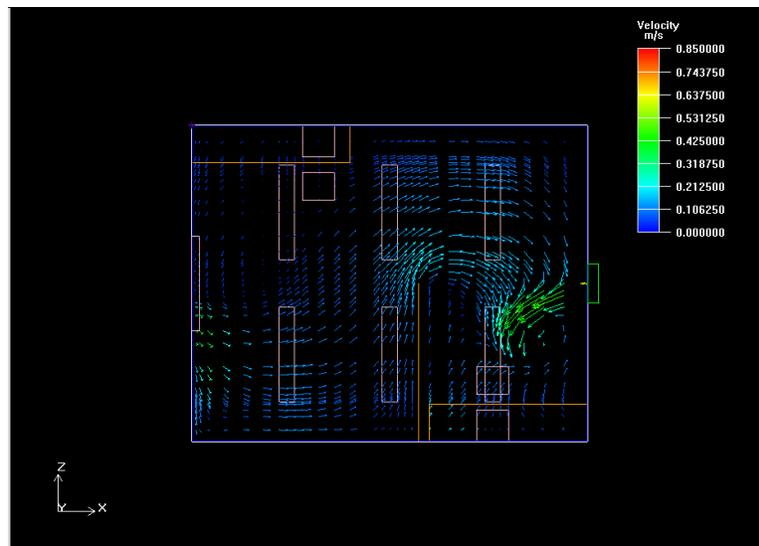

Figure 1.11: Velocity Vectors in an  $x$ - $z$  Cross Section
*This will orient the model as shown in Figure 1.11. You can see the flow distribution of low-velocity ventilation air throughout the office on this plane.*